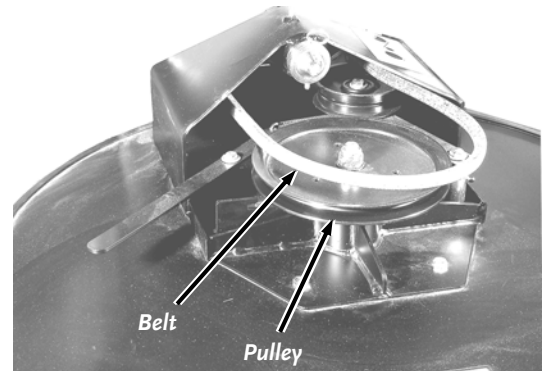
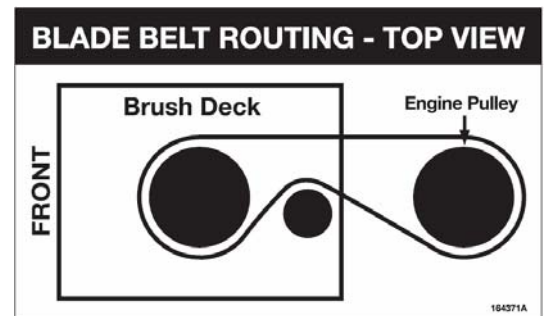
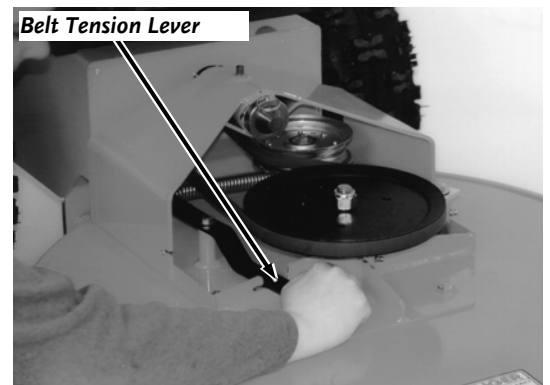

Figure 3
Figure 4
Figure 5
3. Install the Belt on the Pulley and Clutch (**Figure 3**) and route the Belt per the label on the Spindle Housing (**Figure 4**). The Tension Lever may have to be released where the Lever is secured into slot. (**Figure 5**).
4. Tighten the Belt Tensioner (**Figure 5**) onto the Belt with the Lever secured in the slot.